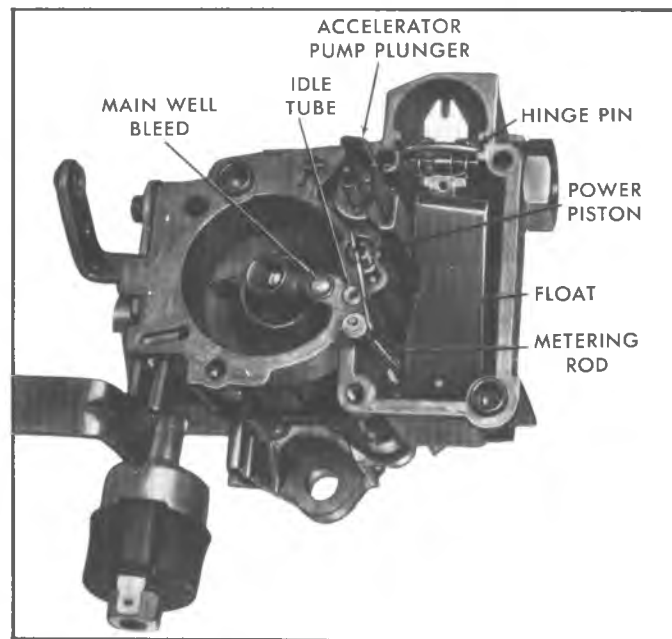

Fig. 4—Float and Accelerator Pump
2. Remove float assembly from float bowl by lifting upward on float hinge pin. Remove hinge pin from float arm (Fig. 4).
actuator lever from end of throttle shaft by removing lever attaching screw (Fig. 4).
5. Hold down on power piston while removing lever. Power piston spring and metering rod assembly may now be removed from float bowl (Fig. 4).
8. Push down on pump discharge "T" until flush with bowl casting. (Fig. 4).
carburetor bore. Tang on upper end of link retains link to pump shaft. (Fig. 4).